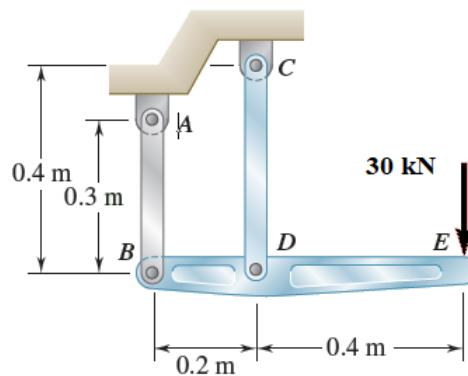

Figure 3 [a]
3. [a] The rigid bar BDE is supported by two links AB and CD as shown in Figure 3 [a]. Link AB is made of aluminium ($E = 70 \text{ GPa}$) and has a cross-sectional area of 500 mm^2 . Link CD is made of steel ($E = 200 \text{ GPa}$) and has a cross-sectional area of 600 mm^2 . For the 30-kN force shown, determine the deflection of B, D, and E.